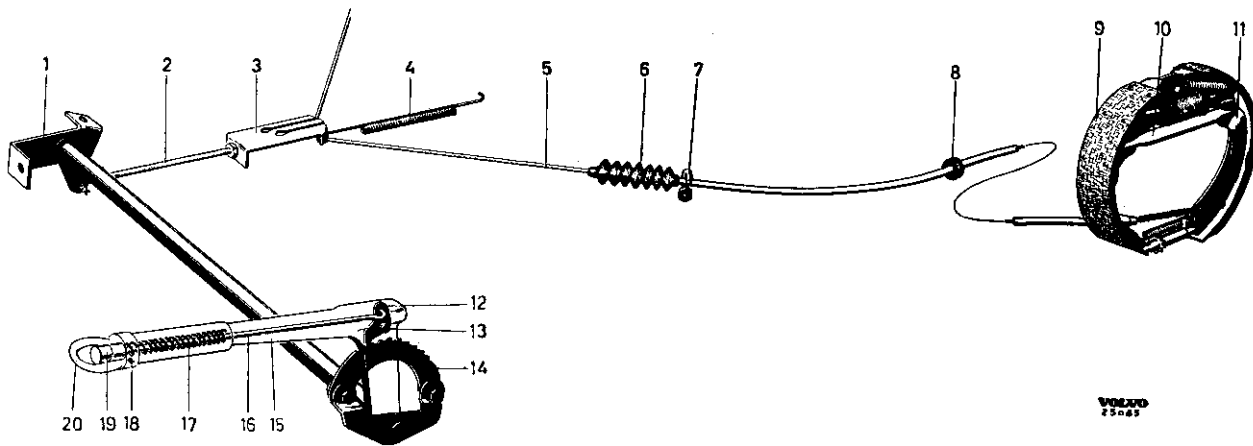

Fig. 16. Handbrake system.
The handbrake lever is floor-mounted on the outside of the driving seat. The movement of the lever is transmitted by means of a shaft, lever and pull rod to the clevis (3, Fig. 16). From there the movement is transmitted by means of cables (5) to the rear wheel brake unit levers (11). The upper end of this lever is attached to the rear brake shoe. When the lever is pulled forwards, the shoes are forced outwards by means of the links (10), causing the handbrake to be applied.